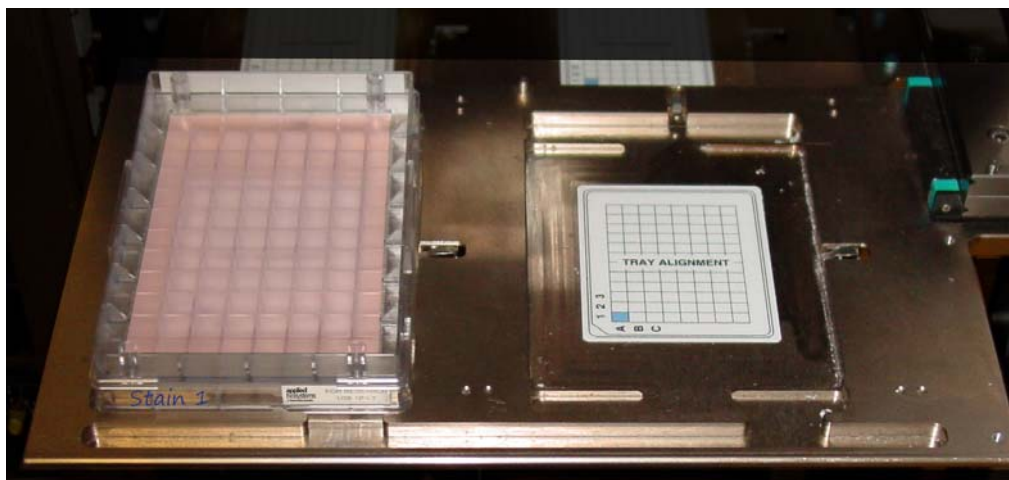

Figure 62 Stain 1 tray loaded in drawer 5
- Orient trays as indicated by the guide inside the drawer (Figure 62 on page 135). Improper orientation may cause the run to fail.